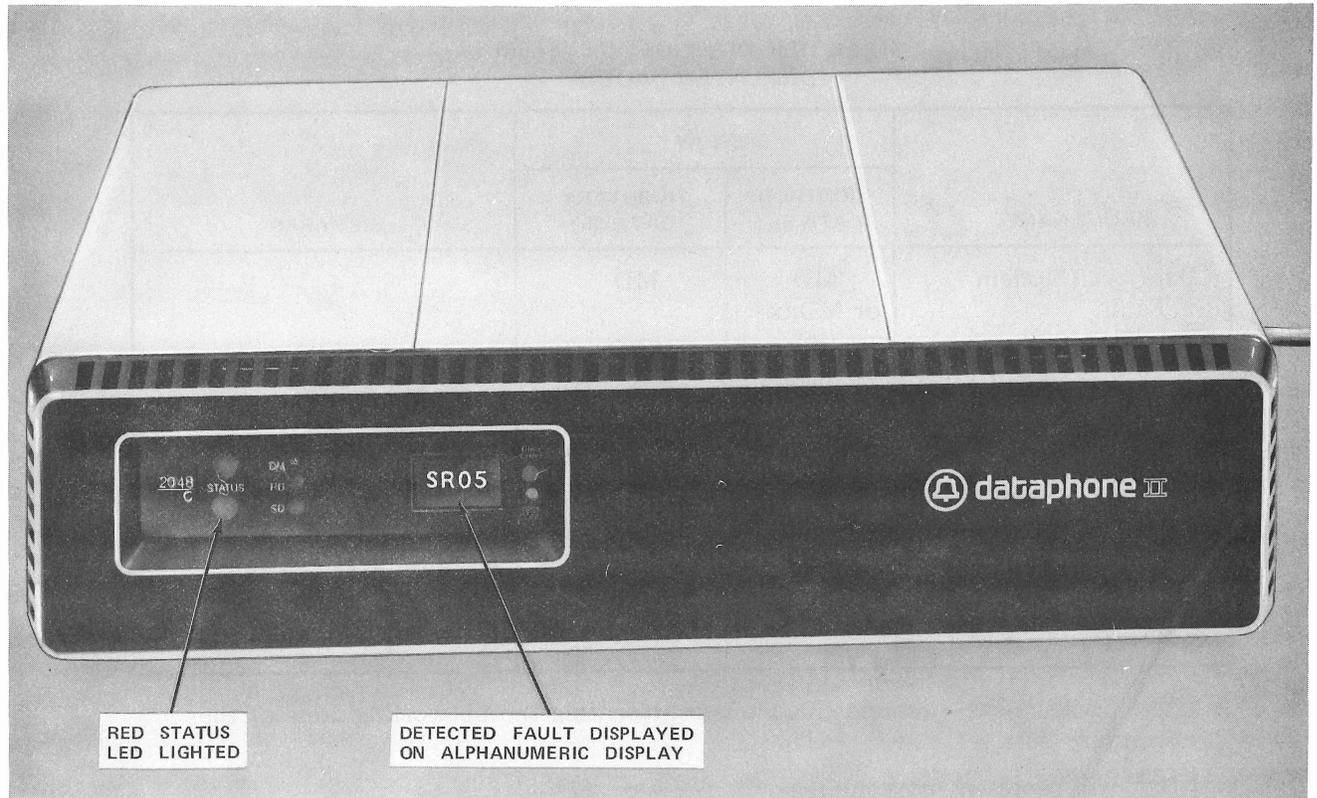

Fig. 11—Data Set Front Panel Showing Red Status and Fault Condition
- **STATUS:** This set of two large LEDs indicates system (data sets and connecting facilities) status as determined by the real-time diagnostic system. This system continually checks both control and tributary data sets and indicates the status of both on the control data set front panel and of the tributary on its front panel. When the **green** STATUS lamp is on the system is operating properly. A **red** STATUS indication means the real-time diagnostic unit has detected one (or more) of five faults. The fault (or faults) that were detected are displayed on the alphanumeric display for at least 15 seconds (Fig. 11). If more than one fault exists each is displayed for approximately five seconds. The faults checked by the real-time diagnostic unit and the display abbreviations used when each is detected are shown in Table A. These faults are described in Part 3, Functional Description.